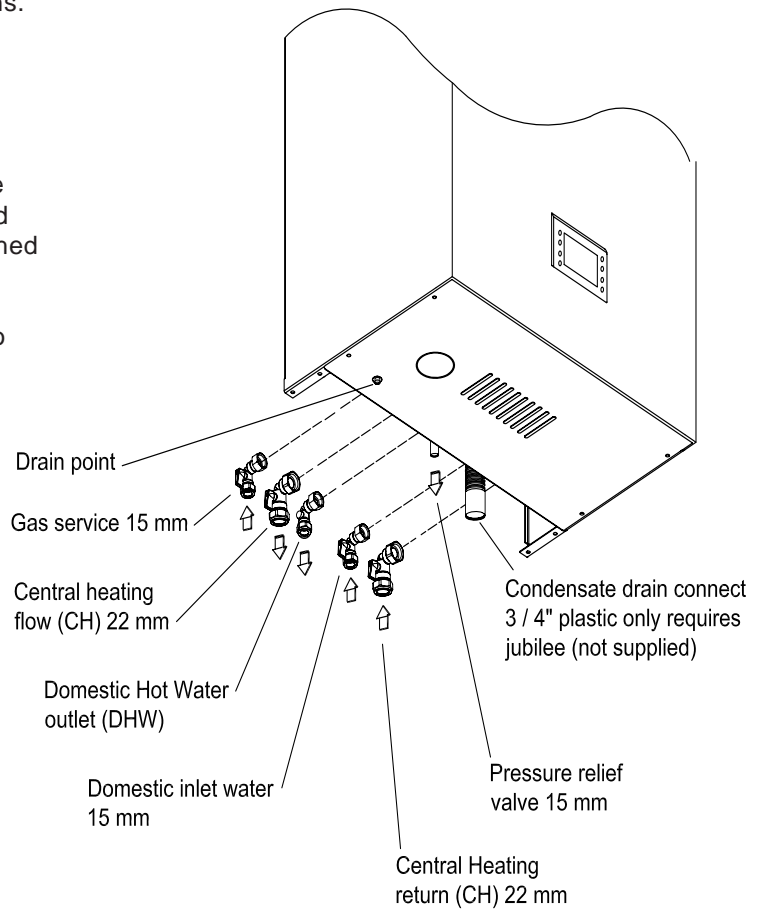

Fig.29
Remove plastic caps from boiler connection and fit valves as per fig. 29 using the washers provided.
**5.21 GAS CONNECTION (Fig. 29)**
**5.22 CENTRAL HEATING CONNECTION (Fig. 29)**
**5.23 DOMESTIC HOT WATER CONNECTION (Fig. 29)**
The condensate drain connection is a flexible 3/4" pipe and is therefore adjustable Fig. 29.